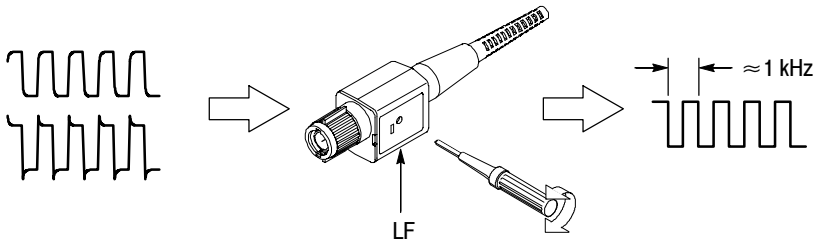

Figure 4: LF compensation adjustment
2. Compensate the probe by adjusting the trimmer in the probe compensation box so that the corners of the signal are square. See Figure 4.